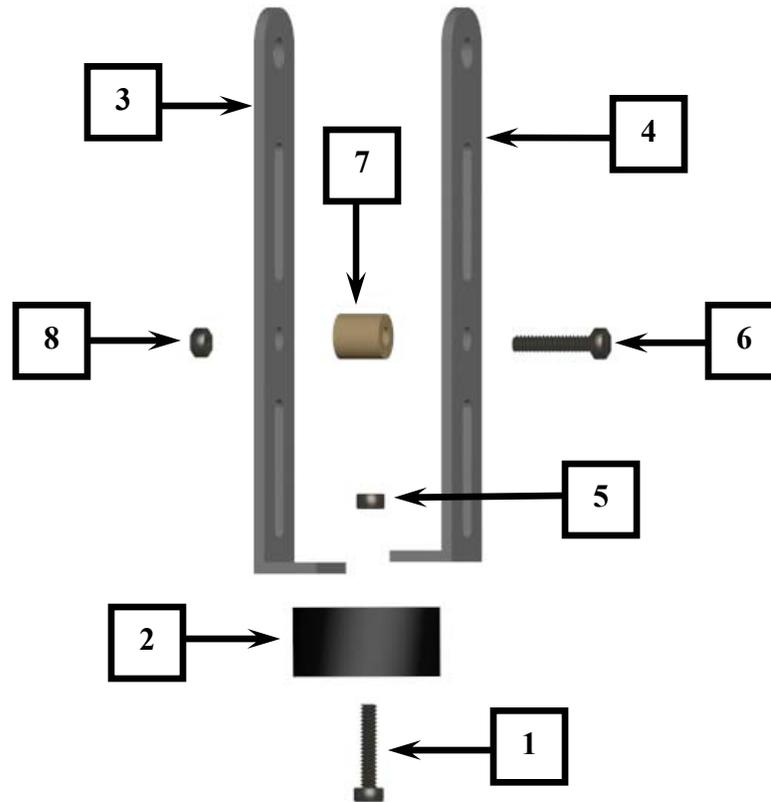

Figure 21: Lower Leg Assembly
11. Use Figure 21 to assemble the lower leg assembly. Please note the orientation of the longer leg brace and the shorter brace. The shorter leg brace is always installed on top of the longer leg brace. To make construction easier, follow the numbered steps as outlined in Figure 21.